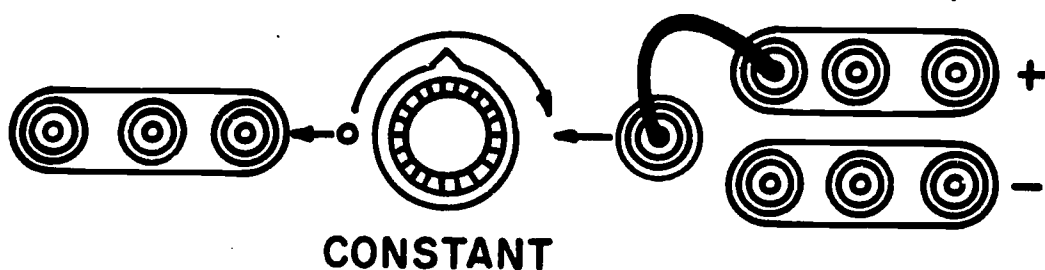

Fig. 3 Connection for positive signal
9. Wire the Analog Computer to provide a CONSTANT signal of positive sign as shown in Fig. 3.